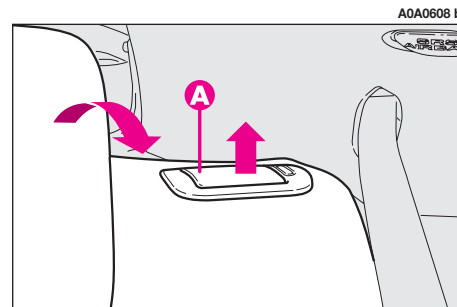
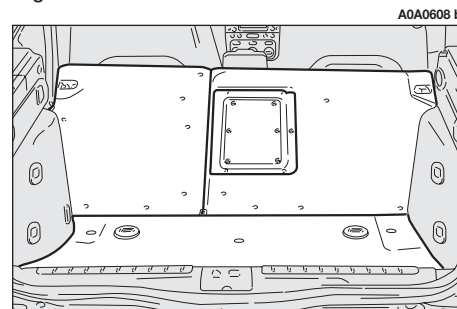

fig. 22
fig. 23
– raise the levers (**A-fig. 22**) retaining the back rests and tilt them forwards to obtain a single loading surface (**fig. 23**).